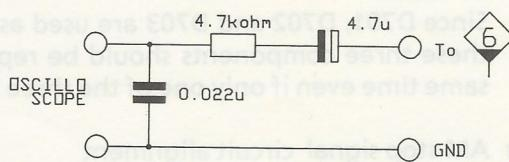

Fig. 8
- (d) Place C.R circuit in Fig.8 to the vertical input of oscilloscope, and connect the input to TP6. At this moment, the input sensitivity of oscilloscope is lower than that in procedure (b), and the output level of sweep generator will lower further.